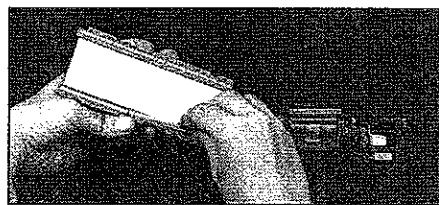

Figure 38
7. Carefully insert the zebra strips into their appropriate slots in the retainer. (see Figure 38).